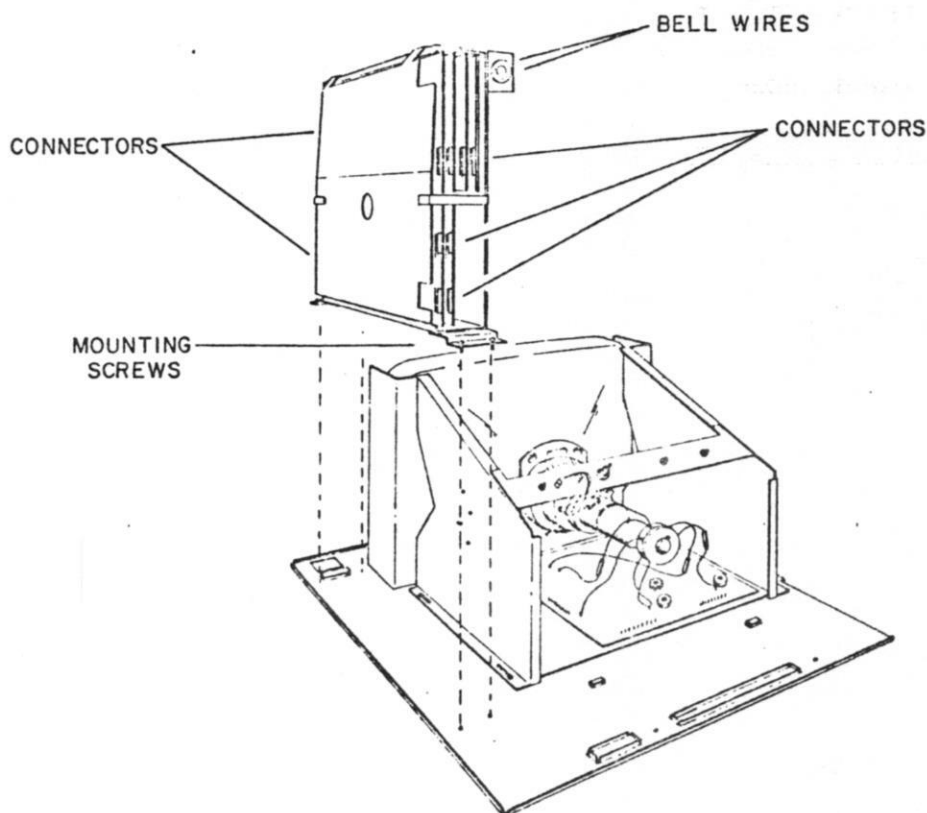

Figure 6-18. Logic Module Mounting
- Disconnect all external cables from logic module (see Figure 6-18). Do not disconnect inter-board cable connectors.
- Remove two mounting screws, located at rear of logic module, from mounting tabs (see Figure 6-18).